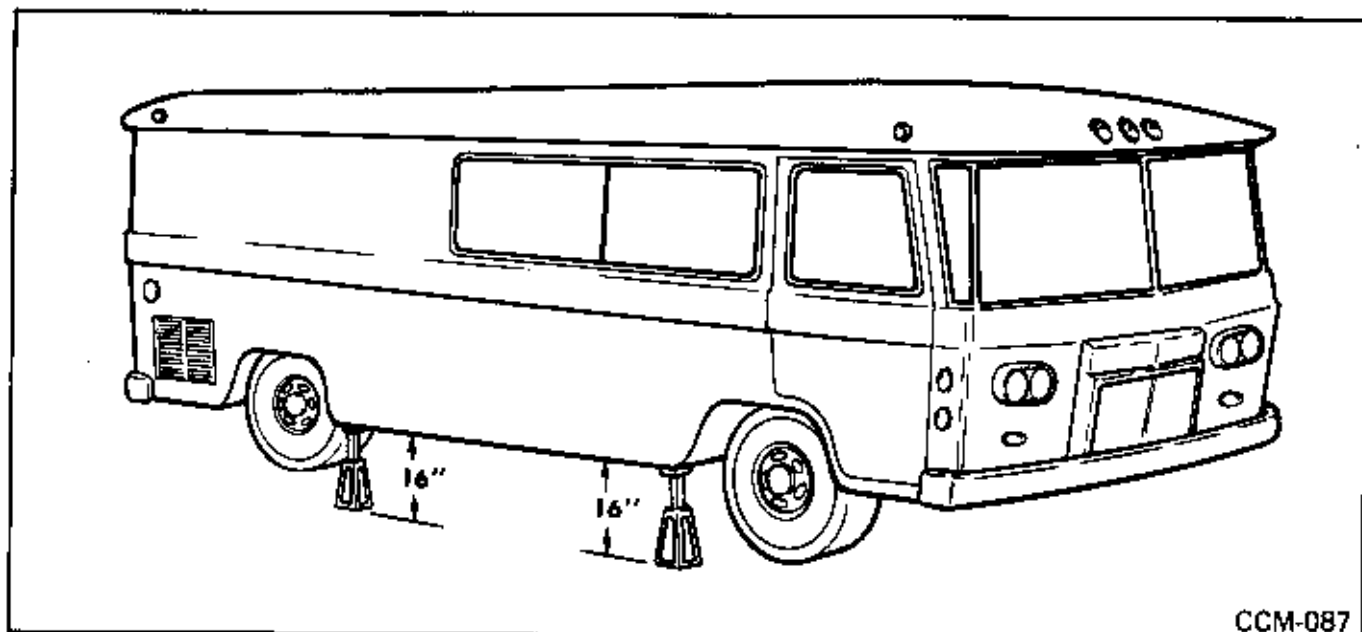

Fig. 88
1. Raise the front and rear of unit on all four jack stands at a height of 16" on each jack stand. (Fig. 88)